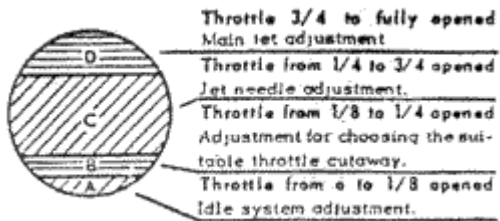

Figure 1
IDLE ADJUSTMENT (Throttle valve opening corresponding to the section A - Fig. 1)
FIRST PASSAGE ADJUSTMENT (Throttle valve opening corresponding to the section B - Fig. 1).
1. If opening gradually the throttle valve for a space corresponding to the part B - fig. 1 the engine running is normal, it means that the throttle valve is suitable.
JET NEEDLE ADJUSTMENT (Throttle valve opening corresponding to the section C - Fig. 1).
In order to have the possibility to adjust the jet needle there are on it 5 grooves or holes (the numeration is starting from the top as follows: 1-2-3-4-5). The jet needle checks the carburation for a throttle valve opening corresponding to the section C - Fig. 1.
MAIN JET SIZE (Throttle valve opening corresponding to section D - Fig. 1).
The influence of the main jet is especially felt in the throttle valve opening corresponding to section D - Fig. 1.